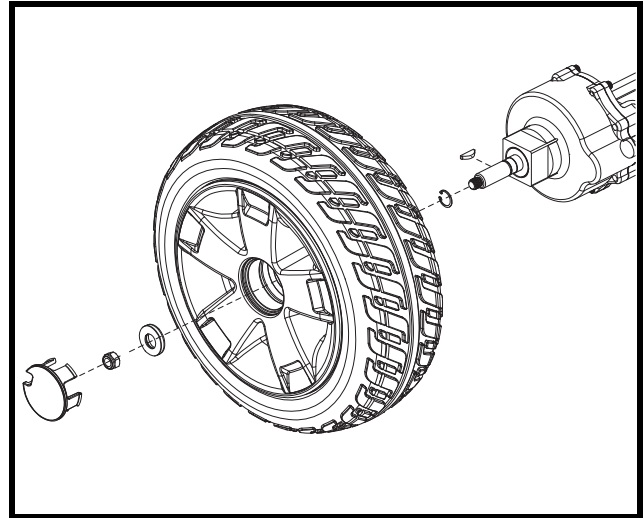

Figure 23. Solid Tire Wheel Removal
3. Remove the drive wheel nut and washer from the axle. **See figure 23.**